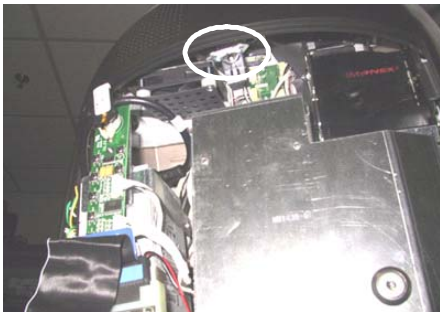

FIGURE 1 - ROTARY DRAW LATCH INSIDE TOP COVER FIGURE 2 - SCREW IN CENTER OF BOTTOM COVER
3. Reach under the center of the top of the cover to locate the rotary draw latch (see Figure 1). Turn the wing on the latch counterclockwise to disengage.
44. Tighten the screw securing the bottom of the door (Figure 2), then turn the wing on the draw latch clockwise to engage the latch (see Figure 1).